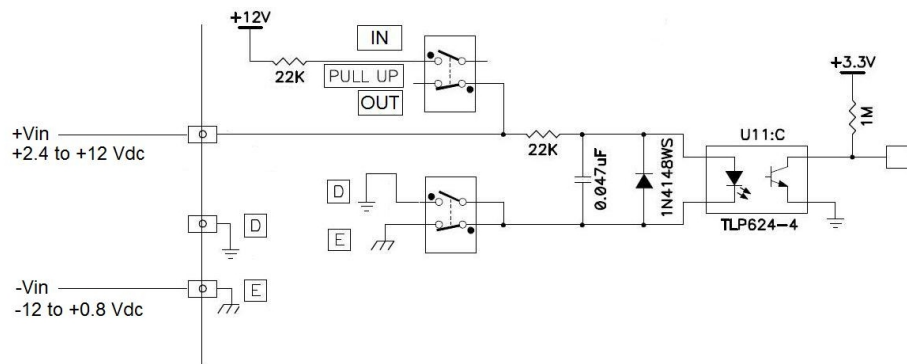
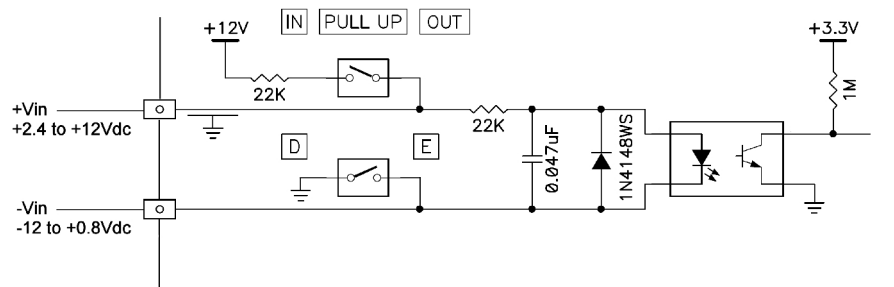

Figure 9 : MEXM-1 Status input connected in the wet-contact (external voltage) mode
Figure 10 : MEXM-2 Status input connected in the wet-contact (external voltage) mode
To isolate the MEXM status inputs from other equipment, the terminal ground connection can be set to external (E) using a DIP switch. When the ground is set to external, voltage $+V_{in}$ in **Figure 9** and **Figure 10** must be greater than +2.4 VDC in order to activate the photodiode of the opto-coupler. In this case, an open circuit is considered as a logic Low, and a voltage higher than +2.4 VDC is considered as a logic High.